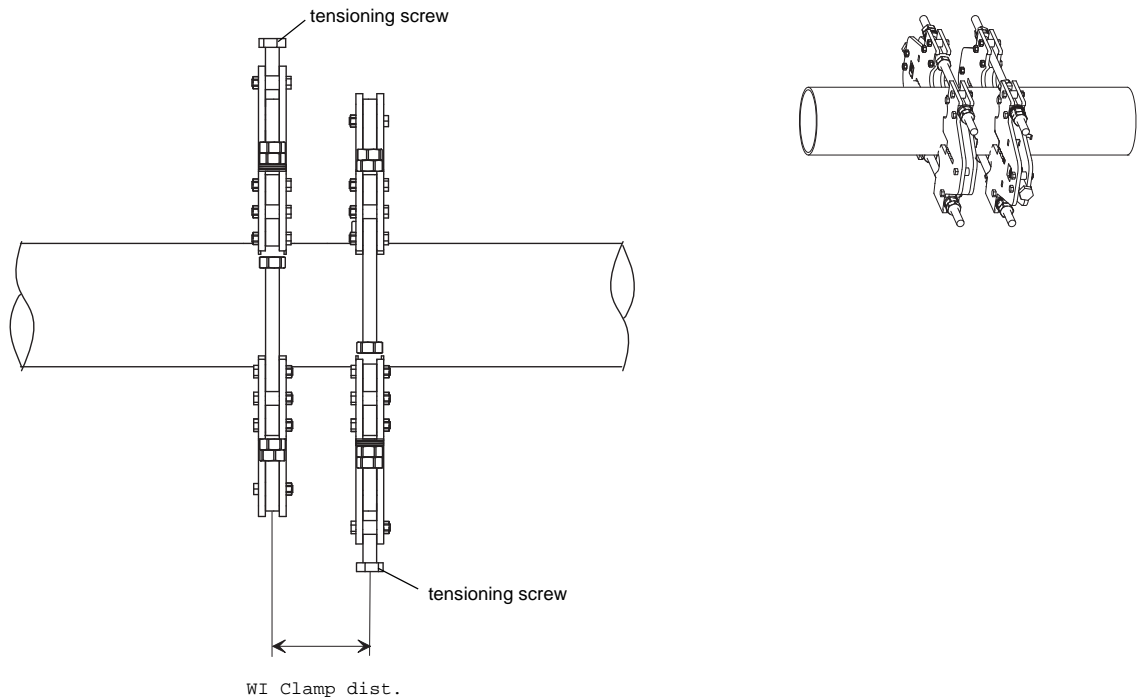

Fig. 3.3: Installed pipe mounting fixture in diagonal arrangement (top view)
- in diagonal arrangement, the tensioning screws show in opposite directions (see Fig. 3.3),
- Adjust the distance $WI_{\text{ Clamp dist.}}$ between the two pipe mounting fixtures (see Fig. 3.3).